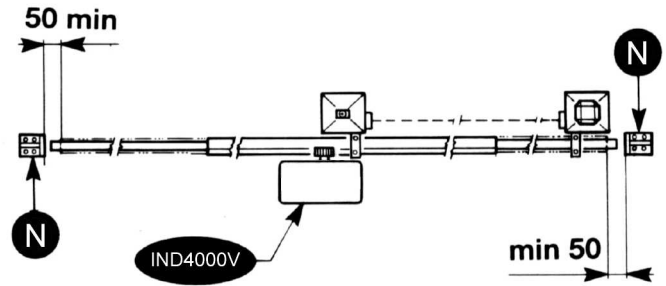
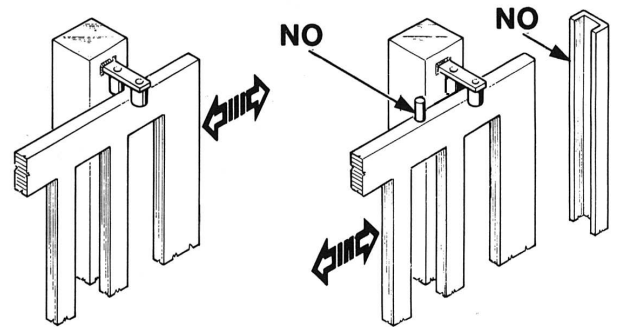

FIG. 2
FIG. 3
- Besides the electrical or mechanical limit switches available on the operators, there must be, on both ends of the installation, a fixed mechanical stopper which stop the gate in the unlikely event of ill functioning of limit swithces on the operators. For this reason the fixed mechanical stopper must be of an adeguate size to withstand the static and kinetic forces generated by the gate (N) (Fig.2). The guide must be provided with two mechanical stops at its ends (N) (Fig. 2). Gate columns shall have anti-derailment guides on their top (Fig. 3), to avoid the unintentional gate release.
Note: Eliminate those mechanical stops of the kind described by figure 3. No mechanical stop shall be on top of the gate, since mechanical stops are not safe enough.